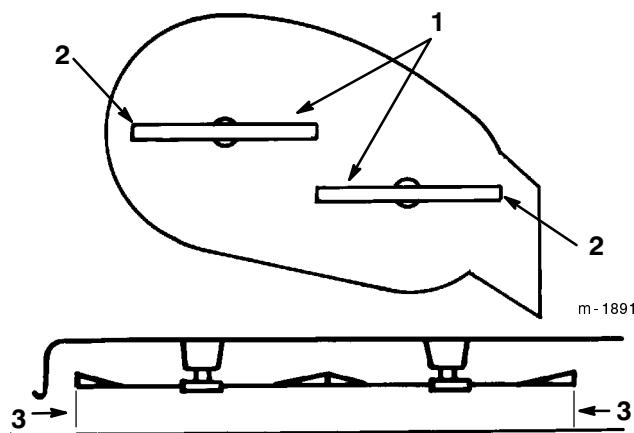

Figure 49
3. Carefully rotate the blade(s) side to side (Fig. 49). Measure between the outside cutting edges and the flat surface (Fig. 49). If both measurements are not within 3/16 in. (5 mm), an adjustment is required; refer to steps 4 and 5.